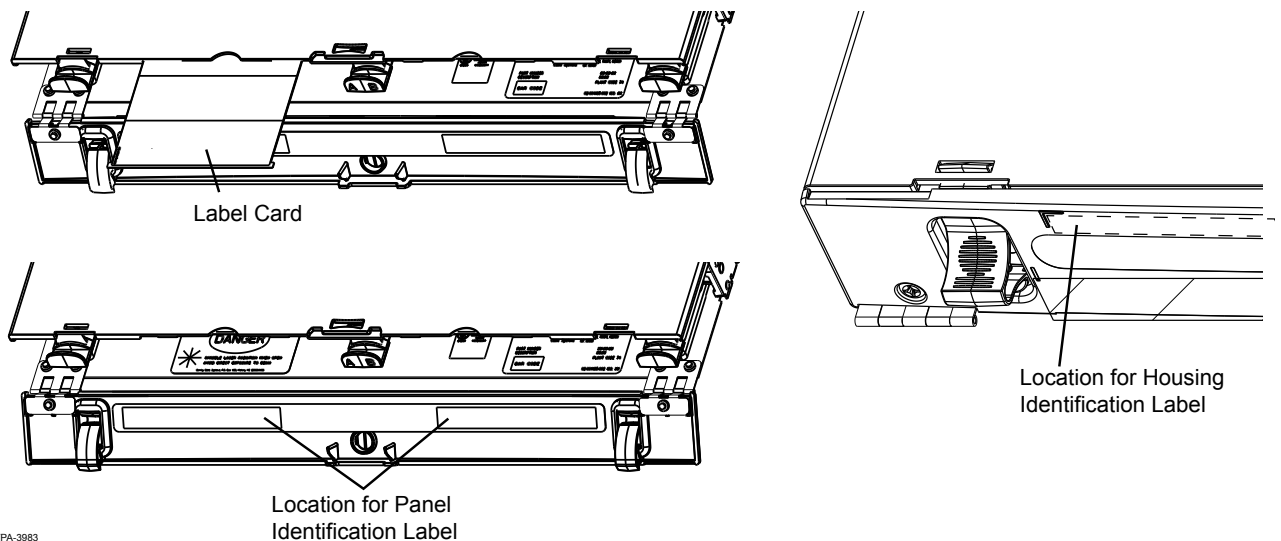

Figure 23
- Record fiber identification information directly on the clear label cards (Figure 23) or on the provided identification labels (or Avery label #5162 [1 1/3 x 4-inch]) which can be adhered to the label cards. The label card can be removed by bowing the card and pulling it out the front of the housing.